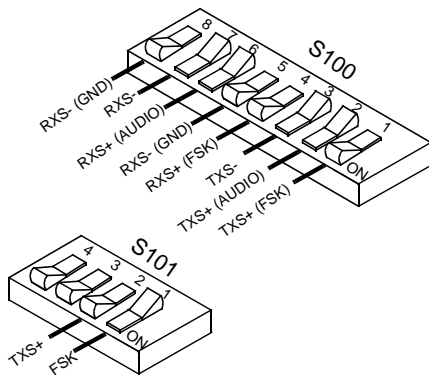

Figure 7-13 S100/S101 SWITCH SETTINGS
1. Set MAC S100 Sections 1, 4, 5, 8 OFF; 2, 3, 6, 7 ON; S101 Sections 2, 3, 4 OFF; 1 ON (see Figure 7-13).